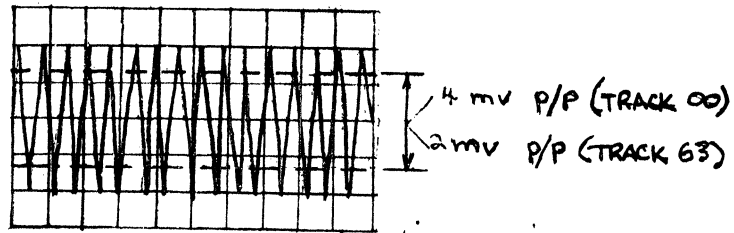

Figure 7-23. Read/Write Head Check No. 1
- h. Connect oscilloscope in accordance with information contained in Figure 7-23.
- l. Minimum peak-to-peak amplitude for observed signal on oscilloscope is 2 mv (Figure 7-23).